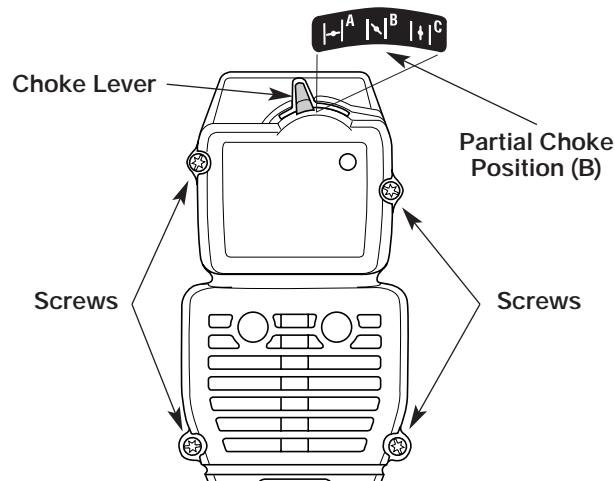

Figure 21
1. Place the choke lever in the **PARTIAL** choke position (B).
**NOTE:** The choke lever must be in the **PARTIAL** choke position (B) to remove the air filter/ muffler cover. See Figure 21.
2. Remove the four (4) screws securing the air filter/ muffler cover. See Figure 21. Use a flat blade or T20 Torx bit screwdriver.
**NOTE:** The choke lever must be in the **PARTIAL** choke position (B) to install the air filter/muffler cover. See Figure 21.
2. Insert the four (4) screws into the holes in the air filter/muffler cover and tighten. See Figure 21. **Do not over tighten.**